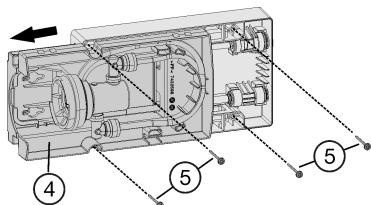

Fig. 57
- Pull the tray Fig. 57 (4) out until it catches.
- Secure the module with 4 screws Fig. 57 (5) through the recesses in the front and directly through the module in the back.